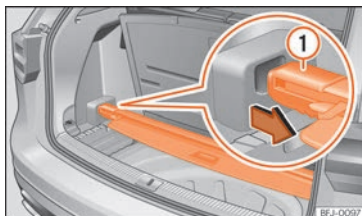

Fig. 117 Below the luggage compartment floor: store the rear shelf.
- Place the rear shelf in the corresponding housing »» **Fig. 117**.